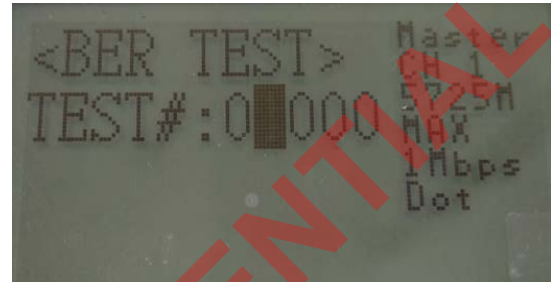

Fig 20
2. Press '↓' or '←' button to edit Packet Numbers (from 100 to 99900) as shown in Fig 20.